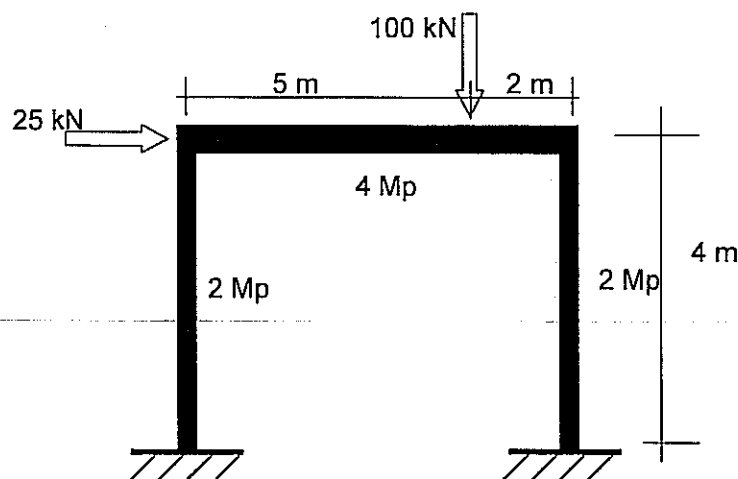

Figure Q5.
b) The structure given below is to be analyzed using plastic theory. The moment capacity of each member is shown in the Figure Q5. Sketch all the possible collapse mechanism and determine the plastic moment capacity M_p [15-Marks]